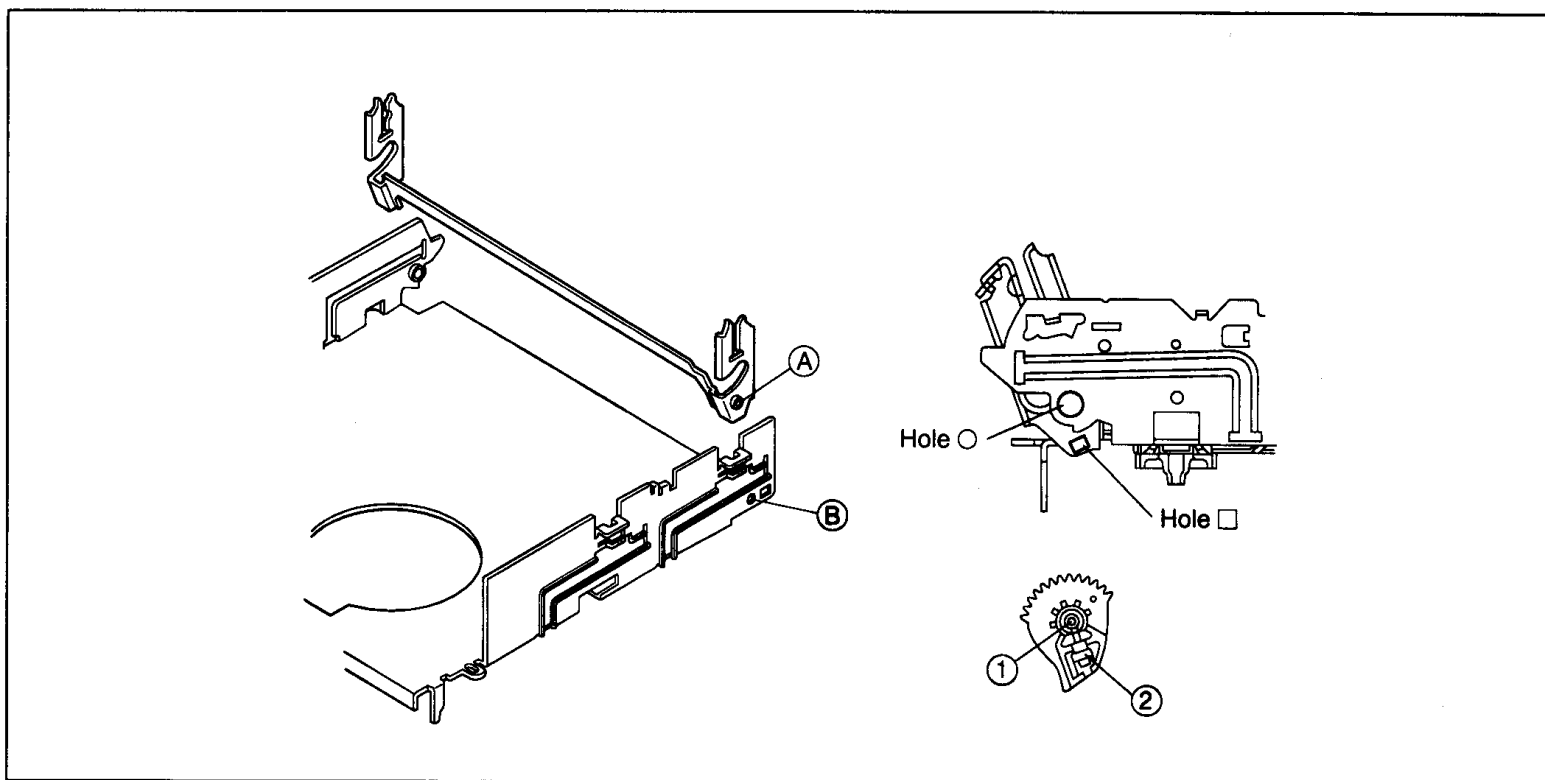

Fig. 2-2-31
- (1) Insert section A of the drive arm into section B of the main deck.
- (2) Insert section 1 of drive gear into hole O of the drive arm and section 2 into hole □. (See Fig. 2-2-31)